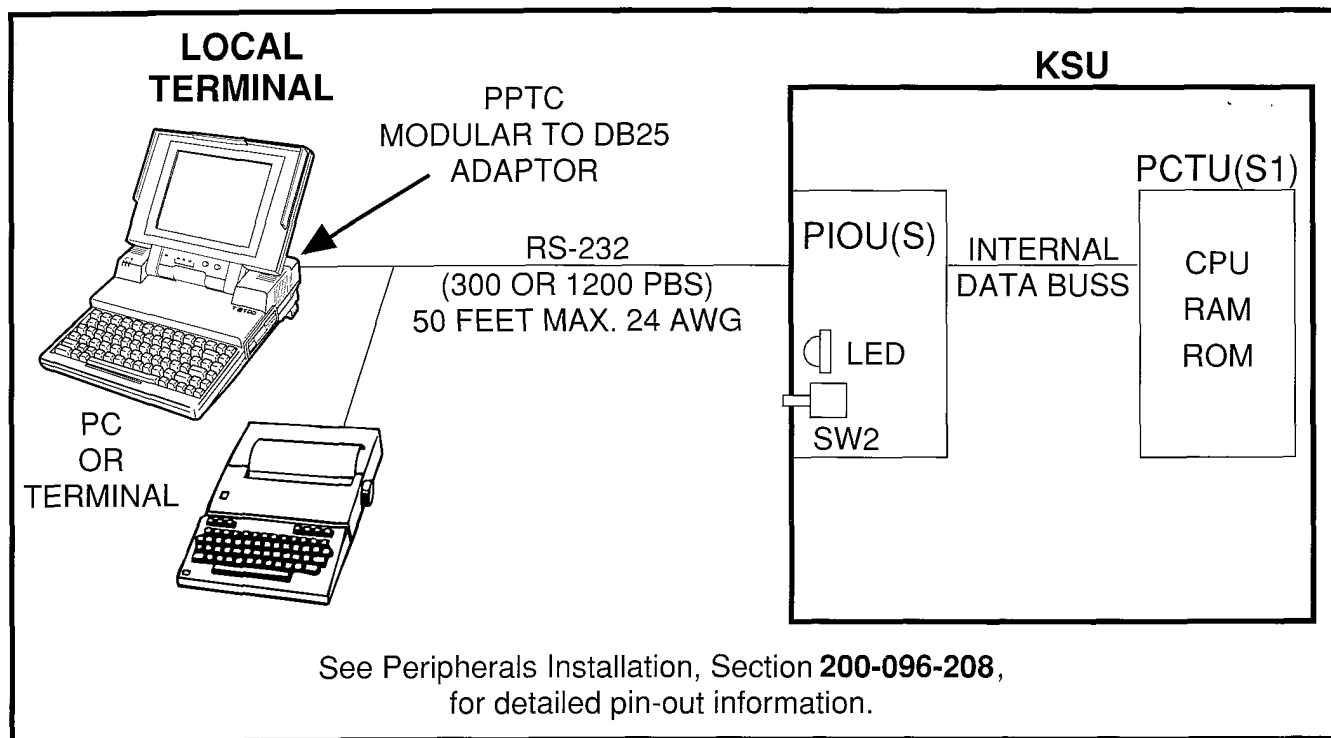

FIGURE 2—LOCAL TERMINAL CONNECTION
5.02 The local terminal must have an EIA RS-232 interface, communicate in ASCII code at 300 or 1200 bps, have a standard typewriter-type keyboard, and display data via a CRT display or printer. A personal computer capable of emulating the described terminal may also be used (see Figure 2 and Paragraph **15**).
5.11 Refer to Figure 2 and verify that the local terminal is connected and set-up as follows: